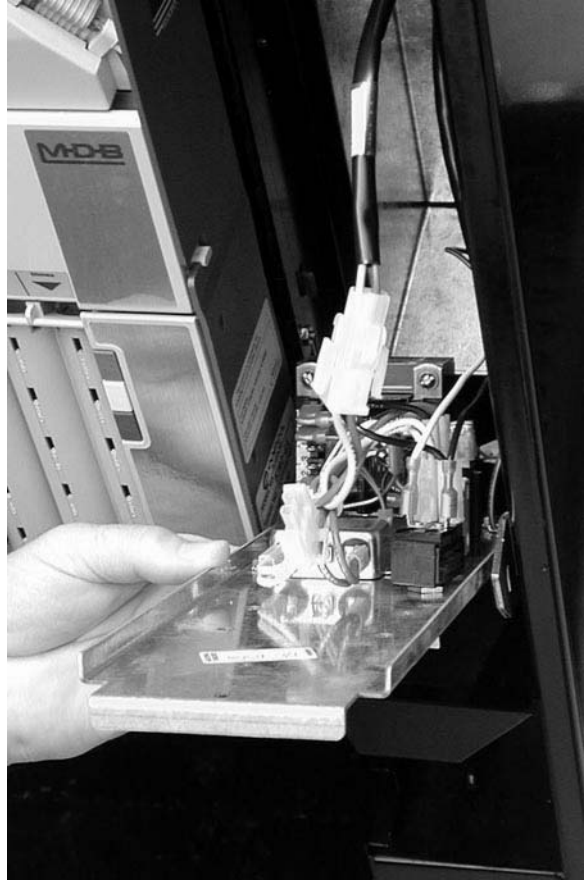

Figure 6
3. Make a note of where all the harnesses attach, then disconnect them (figure 6).
1. Connect all harness to their proper connectors (figure 6).